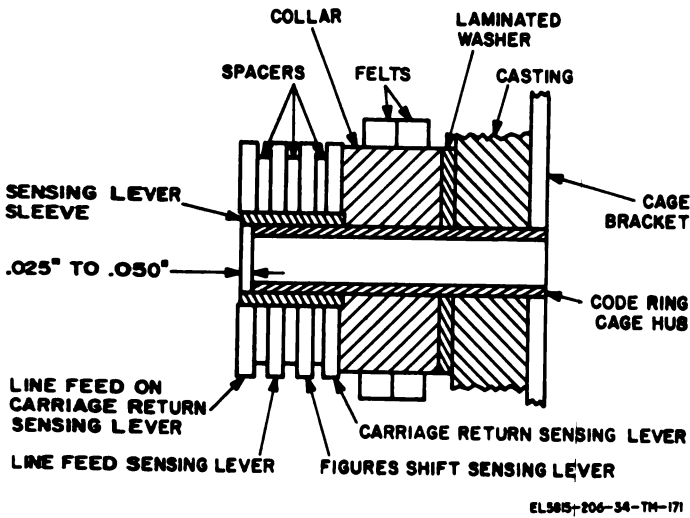

Figure 3-99. Function-sensing-levers end-play adjustment (TT-4C/TG, TT-335/TG, TT-537/G, and TT-698B/TG).
**3-132. Function Sensing-Levers End-Play Adjustment (TT-4C, TT-335/TG, TT-537/G, and TT-698B/TG) (fig. 3-99)**